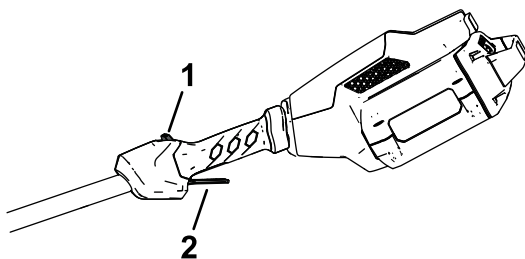

Figure 8
3. To start the edger, pull back on the lockout button, then squeeze the run trigger (Figure 8).